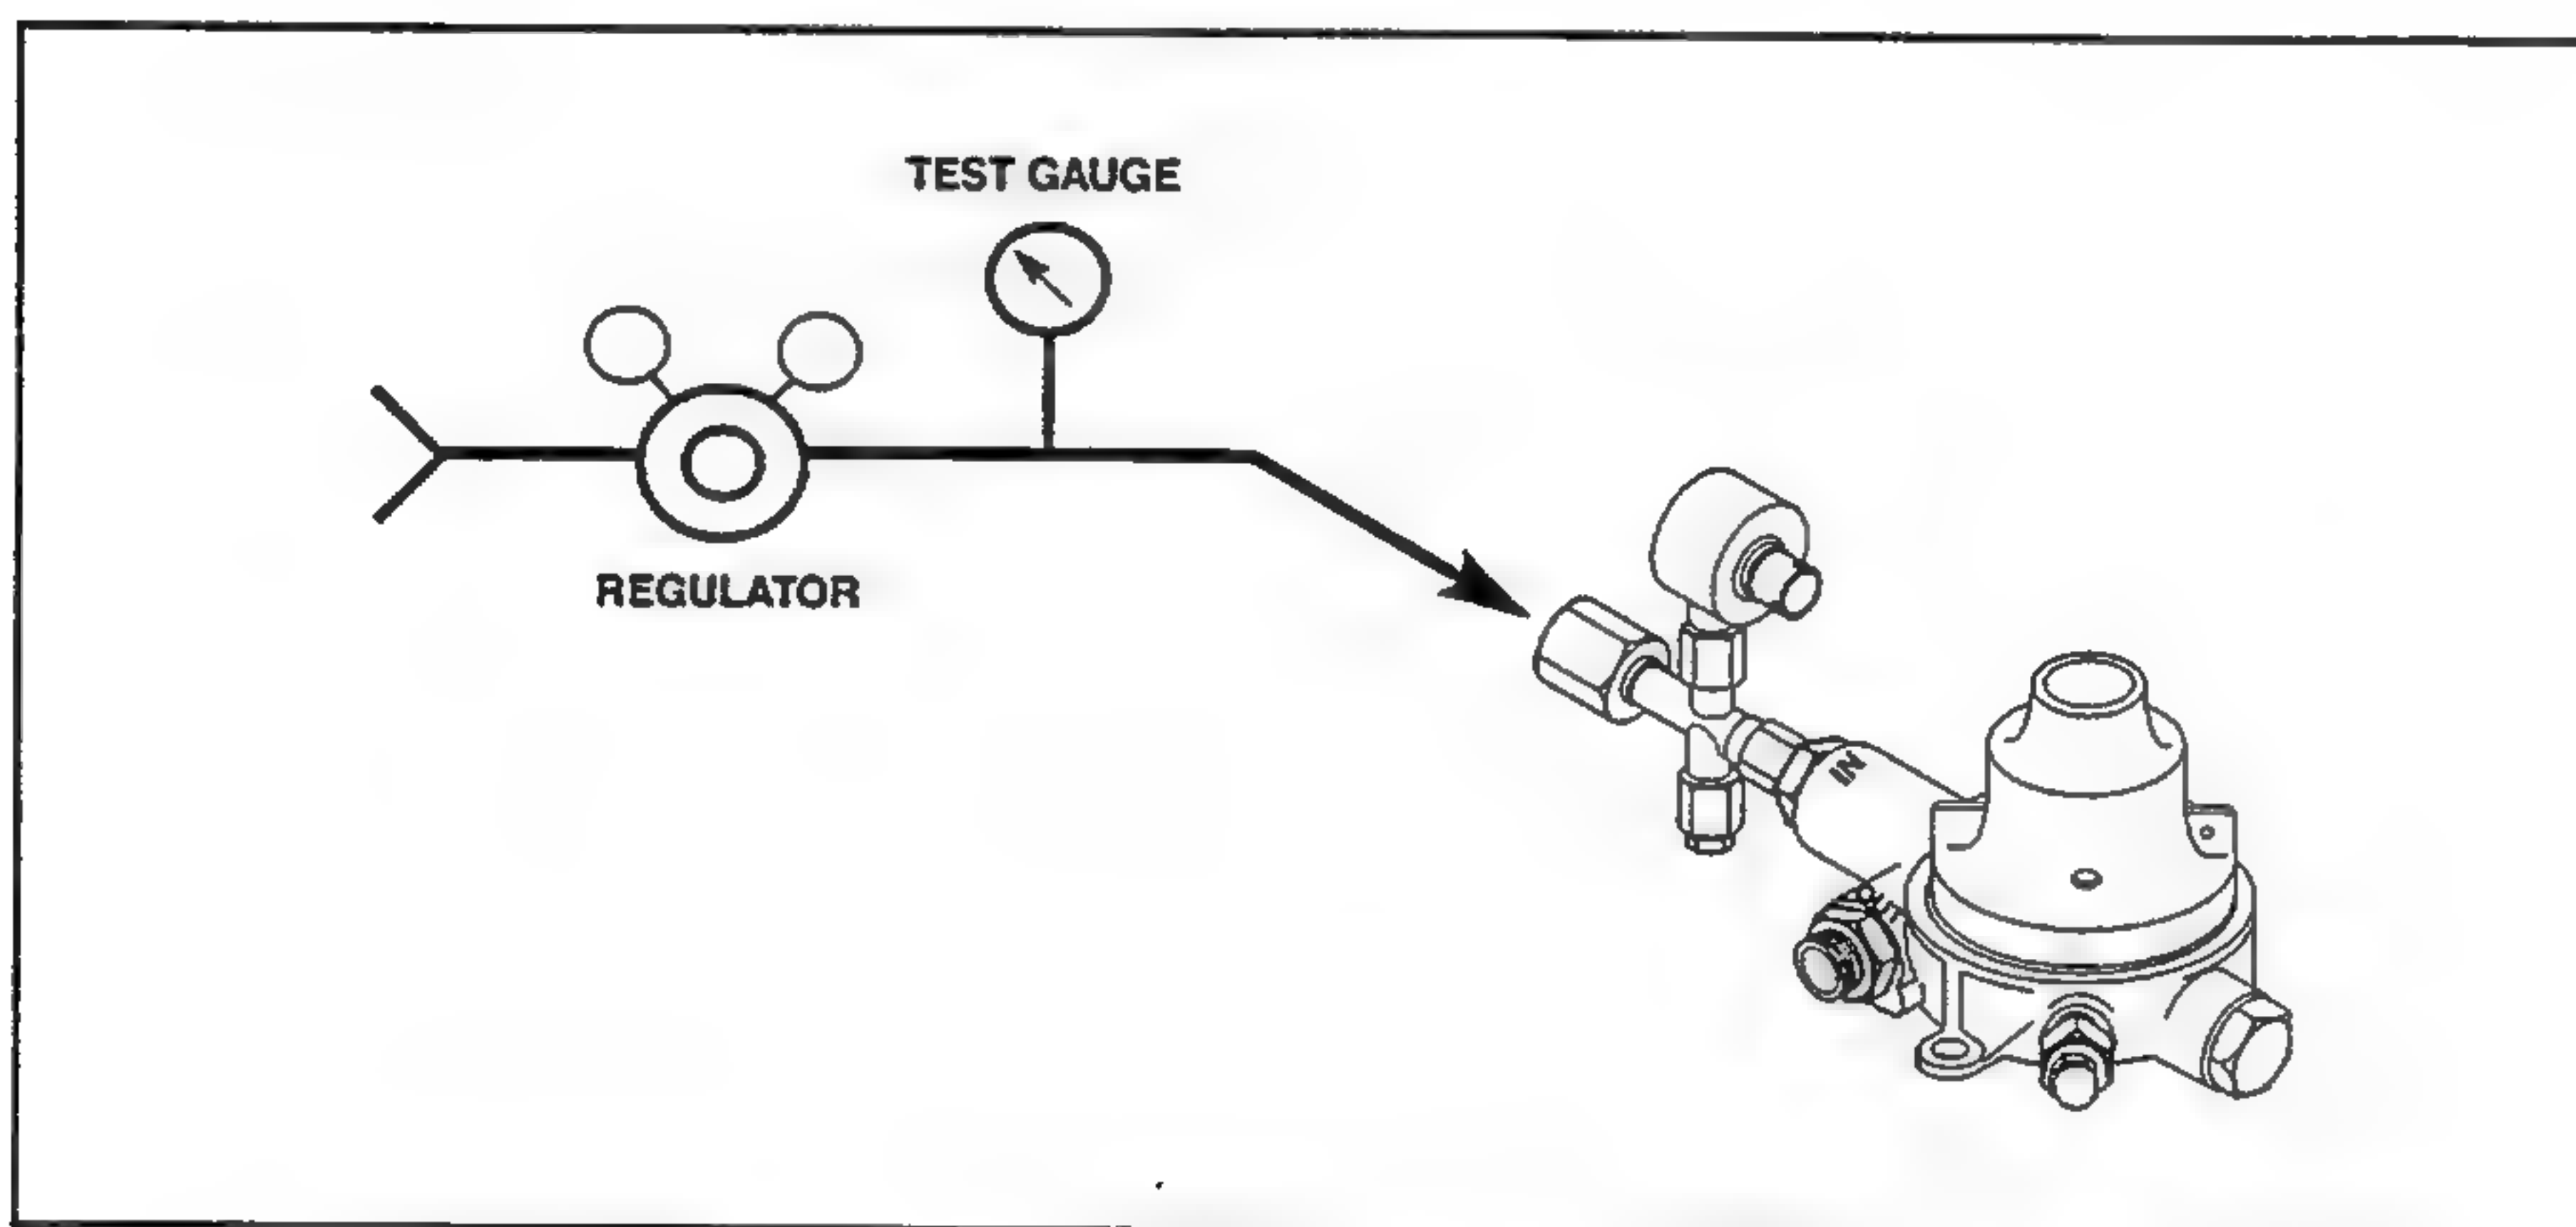

Figure 101 Typical Test Setup
- (3) Apply pressurized oxygen (1850 +0/-50 psi / 12.76 +0/-0.34 MPa) to inlet port of coupling assembly (25, 25A or 30). See Figure 101.
- (4) Using leak test solution, check for leakage between transducer (5, 5A or 10) and coupling assembly (25, 25A or 30), between plug (15) and coupling assembly (25 or 25A) and between coupling assembly (25 or 30) and regulator assembly (65, 65A or 65B). There shall be no evidence of leakage during a period of one minute.
- (5) Discontinue flow of pressurized oxygen to inlet port of coupling assembly (25, 25A or 30). Remove plug(s) (15) from coupling assembly; remove moisture from exterior of assembly using clean, dry, oil-free air.
- (4) Connect high pressure oxygen supply to the inlet port of the coupling assembly as shown in Figure 101.
- (5) Apply pressures indicated in Table 104 or Table 105 as applicable; observe corresponding output voltage indicated on test meter. Output voltages shall be within voltage ranges indicated in the applicable Table.